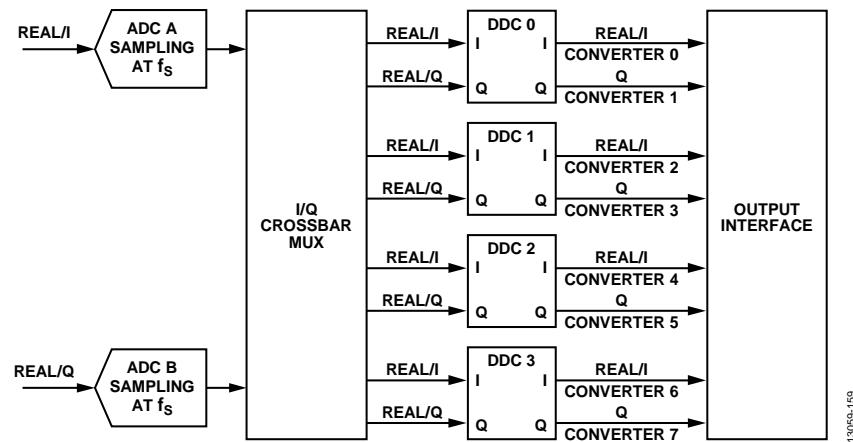

Figure 60. DDCs and Virtual Converter Mapping
The AD6679 supports up to four digital DDC blocks. Each DDC block outputs either two sample streams (I/Q) for the complex data components (real + imaginary) or one sample stream for real (I) data. The AD6679 can be configured to use up to eight virtual converters depending on the DDC configuration. Figure 60 shows the virtual converters and their relationship to DDC outputs when complex outputs are used.